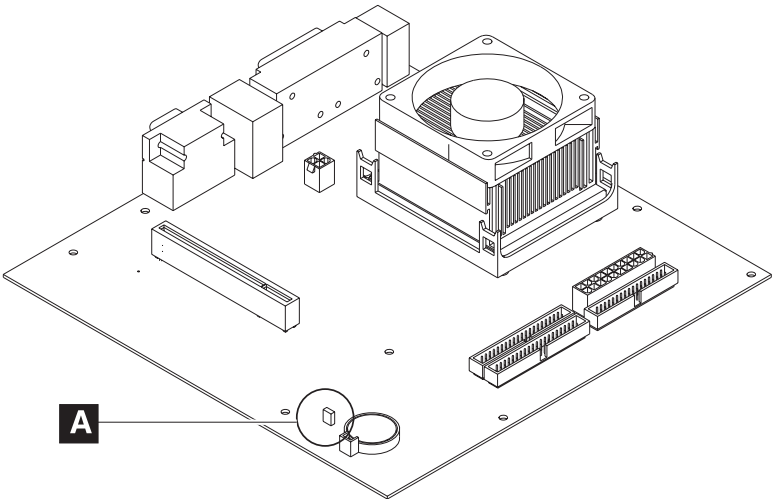
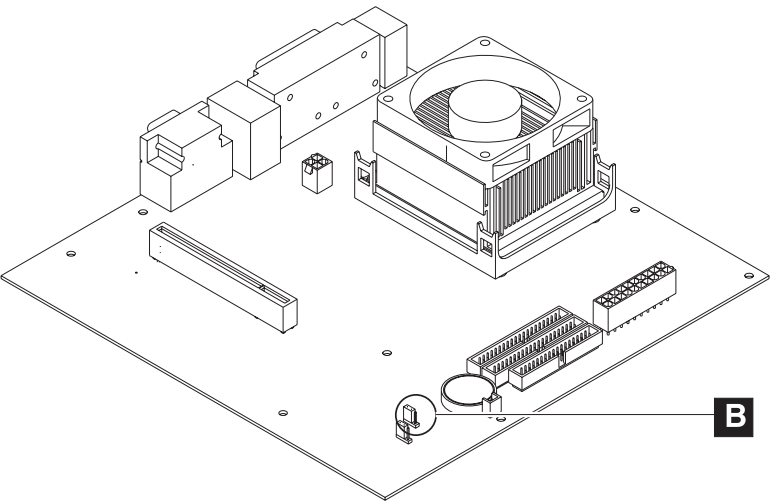

Figure 67. Location of CMOS jumper—Model 741 and 781
Figure 68. Location of CMOS jumper—Model 721
3. See **A** in Figure 67 or **B** in Figure 68 to locate your CMOS jumper on the planar. See Table 7 for the correct pins and position to clear your CMOS settings.